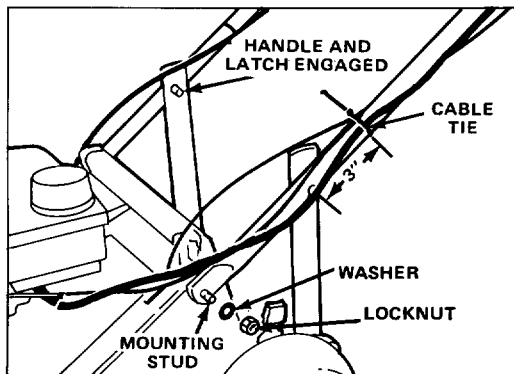

Figure 1
1. Spread handle ends and slide onto mower housing mounting studs (Fig. 1).
2. Secure each side of handle to mounting studs with a washer and locknut (Fig. 1).
3. Spring handle latches inward, move handle up or down to snap handle studs into middle hole on both latches (Fig. 1).
5. Secure control cables to each side of handle approximately 3" above handle stud (Fig. 1).